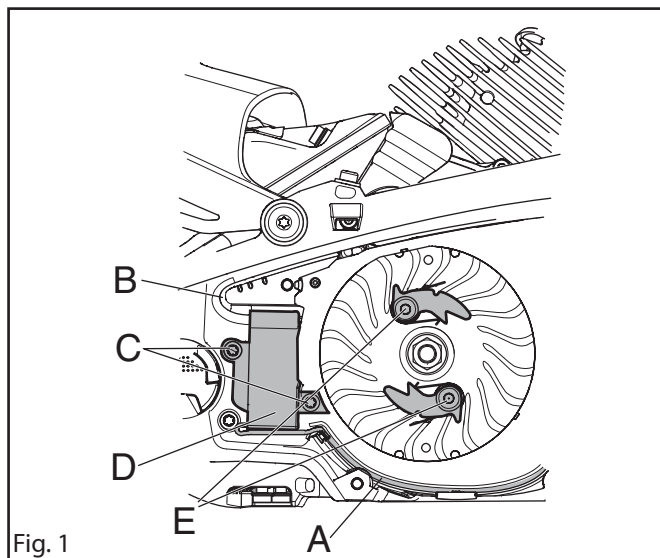

Fig. 1
3. Release the lead (A) with cable (which connects to the Autotune unit). See figure 1.
4. Remove the ignition cable (B) from the spark plug. See figure 1.
5. Remove the M5 screws (C) with Torx T27 and lift off the ignition module (D). See figure 1.
7. Remove the two pawls (E) from the flywheel. See figure 1 and 2.